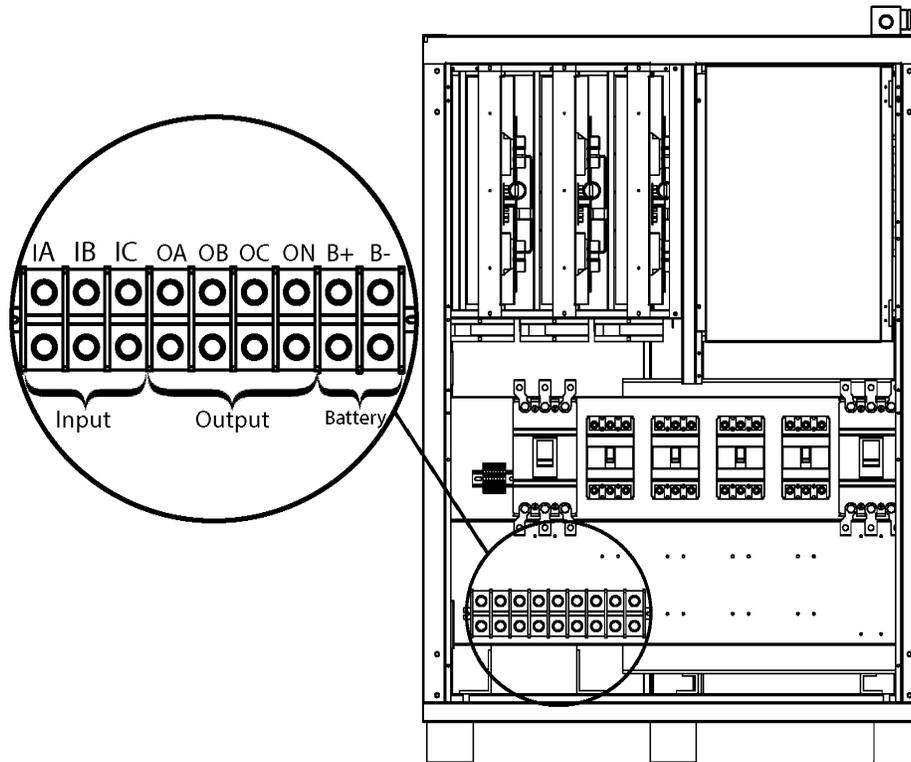

Figure 19—Connections at Terminal Block
- Connect AC input, output, and battery cables to the terminal block. (See Figure 19—Connections at Terminal Block, below.)